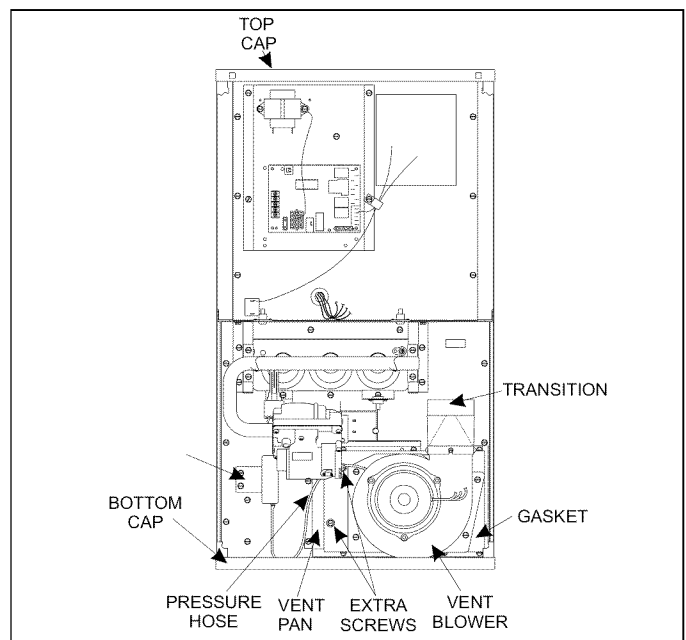

FIGURE 2: Downflow/Horizontal Configuration
10. Rotate the vent blower 180° so that its outlet points toward the inlet air end of the furnace. See Figure 2.
12. Install the two extra machine screws in the two open holes in the front of the vent pan. See Figure 2.
16. Install the top cap at the opposite end of furnace from the vent blower, using the seven sheet metal screws saved earlier. See Figure 2.
17. Install the bottom cap on the bottom of the furnace using the sheet metal screws saved earlier. See Figure 2.